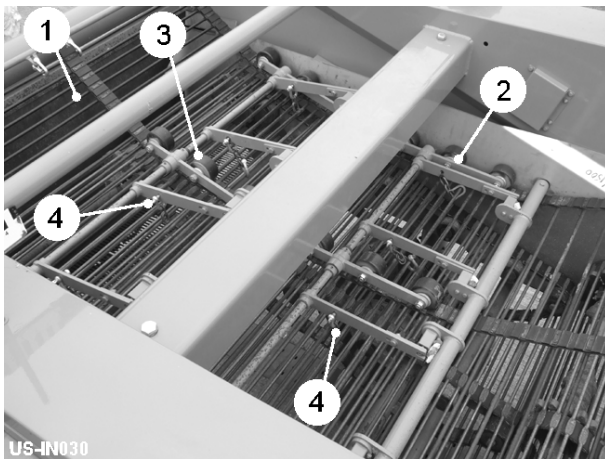

Fig 12
The draper web (item 1, fig 12) mounted above the 4th web assists separation. In work, the web is raised/lowered using the control box switch marked 'draper web'. Lowering the draper web increases the pressure on the 4th web and thus increases the separation. The front and rear sets of damper rollers (item 2 & 3, fig 12) hold the draper web down. Lowering the dampers rollers will increase the pressure exerted on the 4th web. The front and rear damper arms are linked via an adjustable stay located behind the RH rear guard door. The stay enables the operator to manually adjust the height of the damper rollers. Too much pressure or too little height, may cause soil build-up in front of the 4th web.
Additional height adjustment can be obtained by relocating the shackles (item 4, fig 12) onto a different web bar.